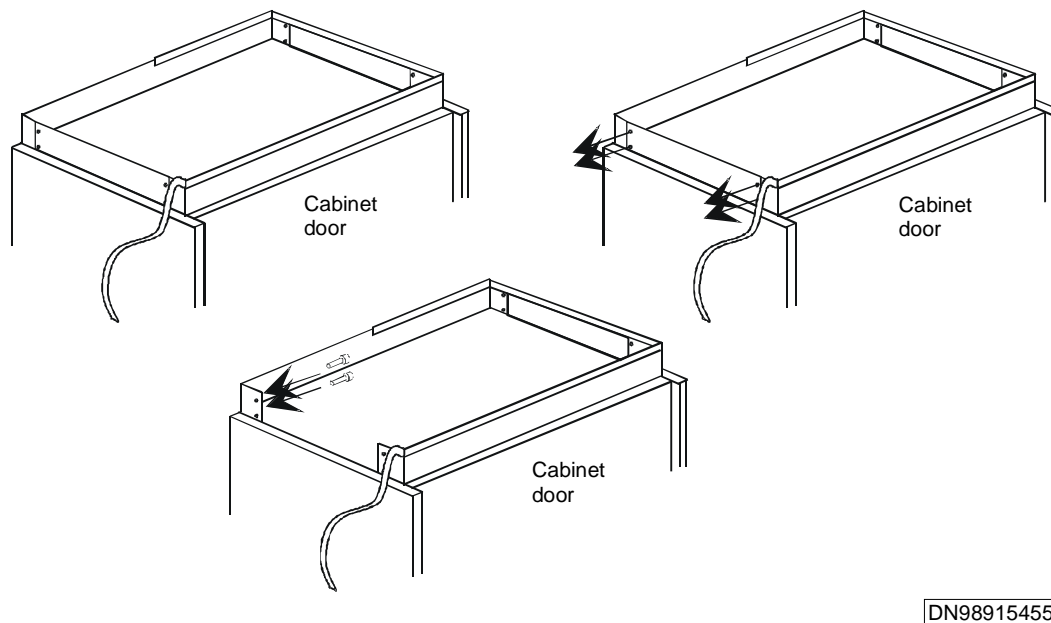

Figure 53 Removing the cover plate
1. Remove the seal lining of the cover plate as shown in Figure 53.
2. Unscrew the cover plate retaining screws and remove the cover plate by inclining it away from the cabinet. Screw two of the cover plate screws back in to the holes from inside, as shown in Figure 53.